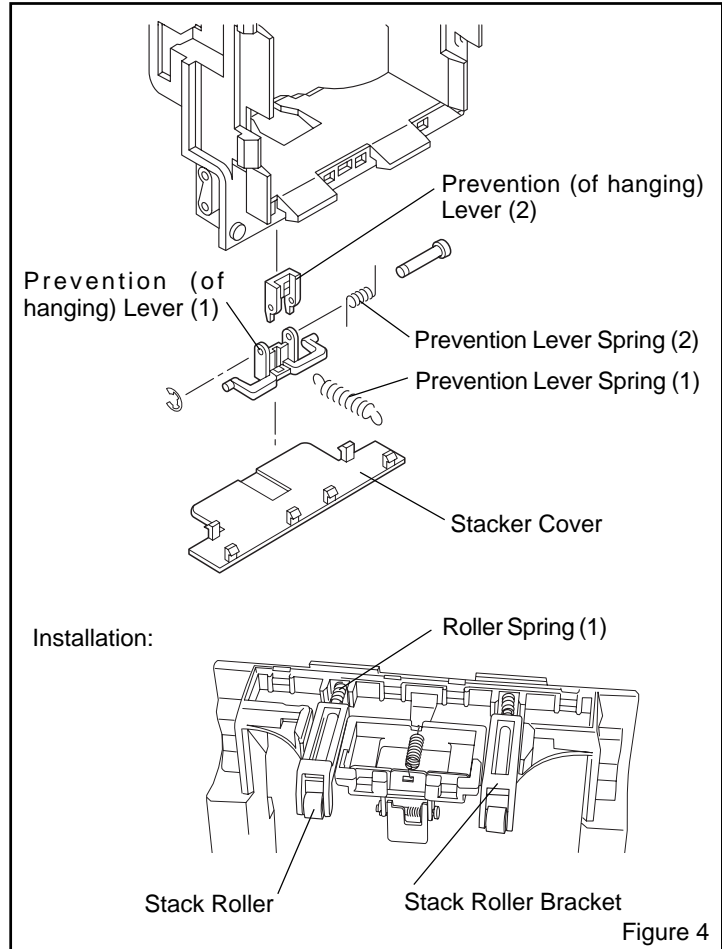

Figure 4
3. Remove the cover and then individual parts as shown in Figure 4.